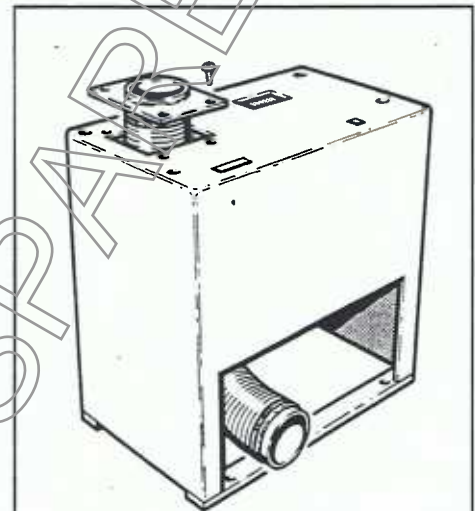

Fig.2.
- B Place flexible hose through aperture in cabinet base and secure using 4 self tapping screws supplied (see Fig.2)